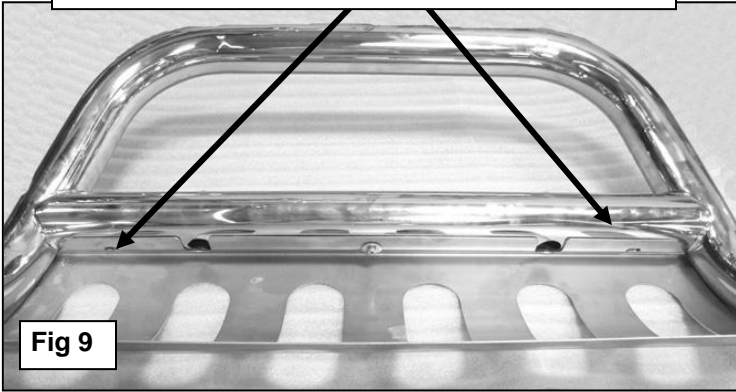

Fig 9
12. Carefully unwrap the Bull Bar and place it on a clean stable work surface. Remove the top two outer screws securing the skid plate to the crossbar on the Bull Bar, **(Figure 9)**. **NOTE:** This will be the Top Bracket mounting location.